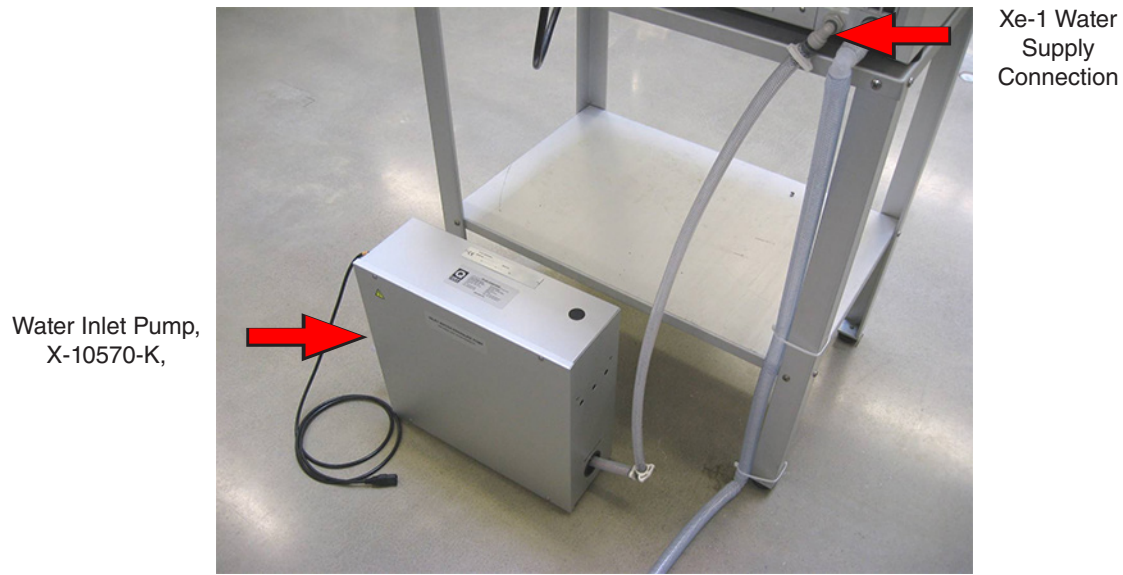

Figure 15.3: The water inlet pump connects to the Q-SUN water supply.
- Q-Lab offers a water inlet pump kit (Part Number X-10570-K) for Xe-1-SE, Xe-1-SCE and Xe-1-WE installations that do not have sufficient water pressure (Figure 15.3).